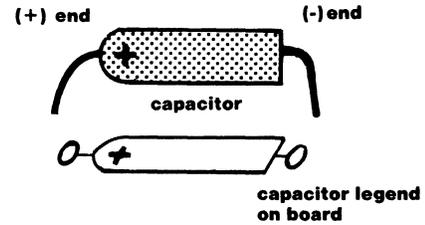

Figure 6.
1. Bend leads, mount, and solder the tantalum capacitors in place, as indicated, carefully observing orientation of the (+) end, refer to figure 6.
1. Bend leads, mount, and solder the tantalum capacitors (C1-C4) in place, as indicated, carefully observing the orientation of the (+) end, refer to figure 6 inside.